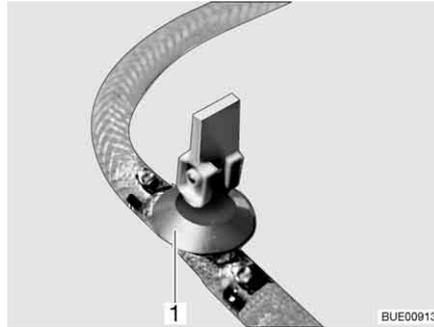
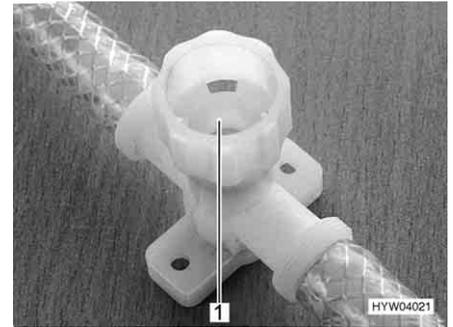

Fig. 176 Drain cock (with rocking lever)
Fig. 177 Drain cock (with twist cap)
- Open all drain cocks. To do this, position the drain cock's rocking lever (Fig. 176,1) vertically or turn the drain cock's cap (Fig. 177,1) in an anti-clockwise direction.